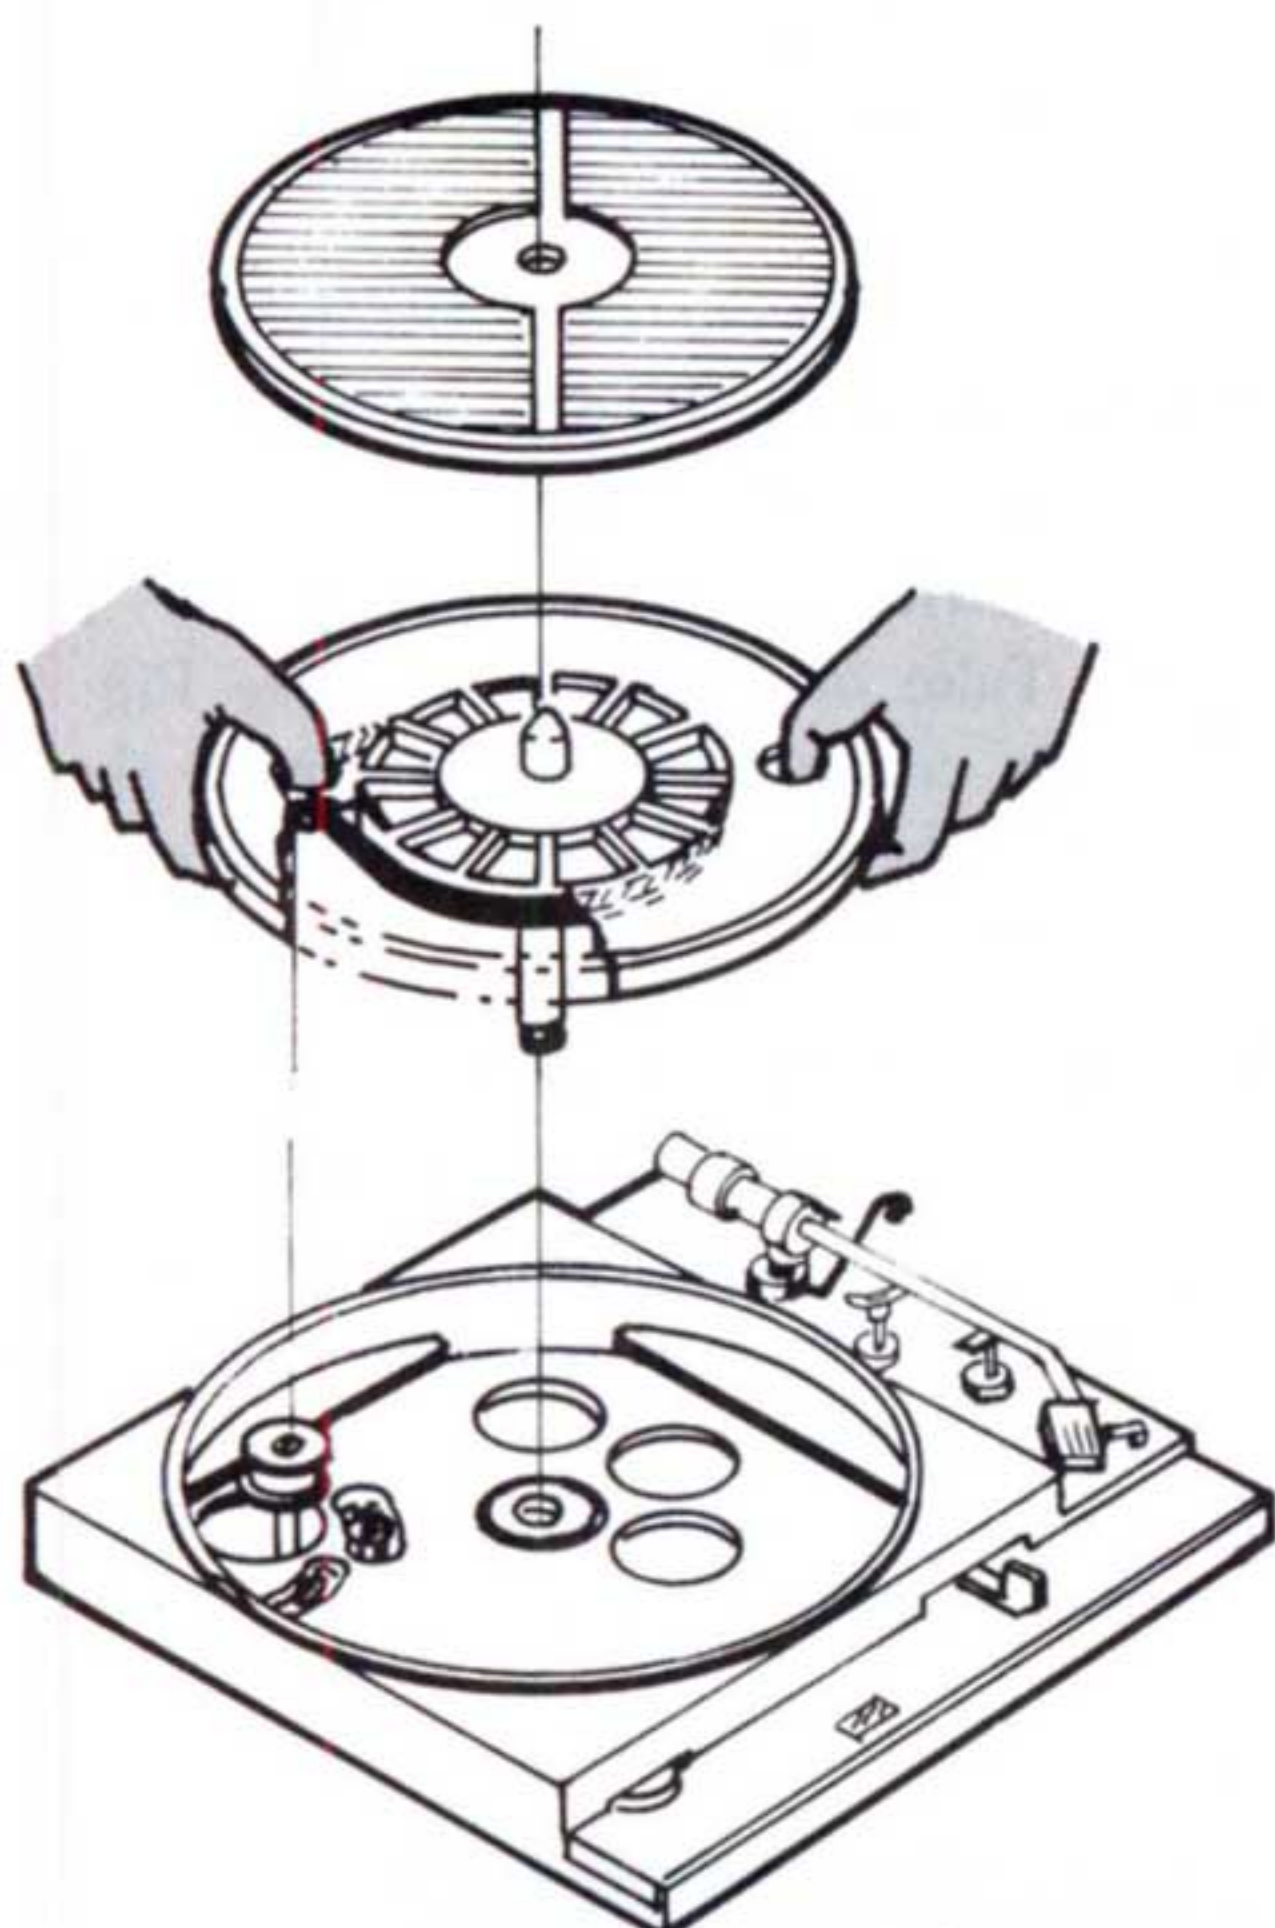

Fig. 2-4 Removal of Turntable
2. Insert both your fingers into the two holes of the turntable with one of the thumbs placed inside of the rubber belt to hook it off, as shown in Fig. 2-4.